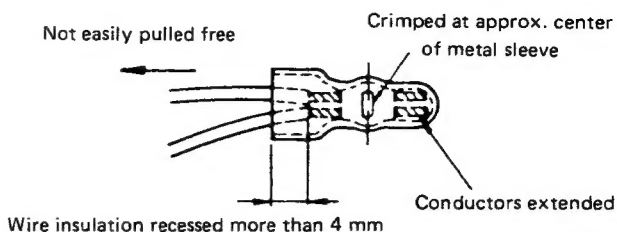

Fig. 7
- (5) Check the four points noted in Fig. 7.